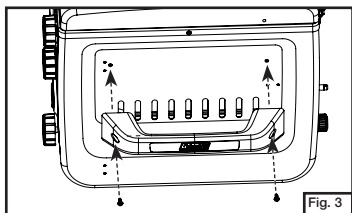

Fig. 3
- Repeat the above steps to install the side handles. (Fig. 3)